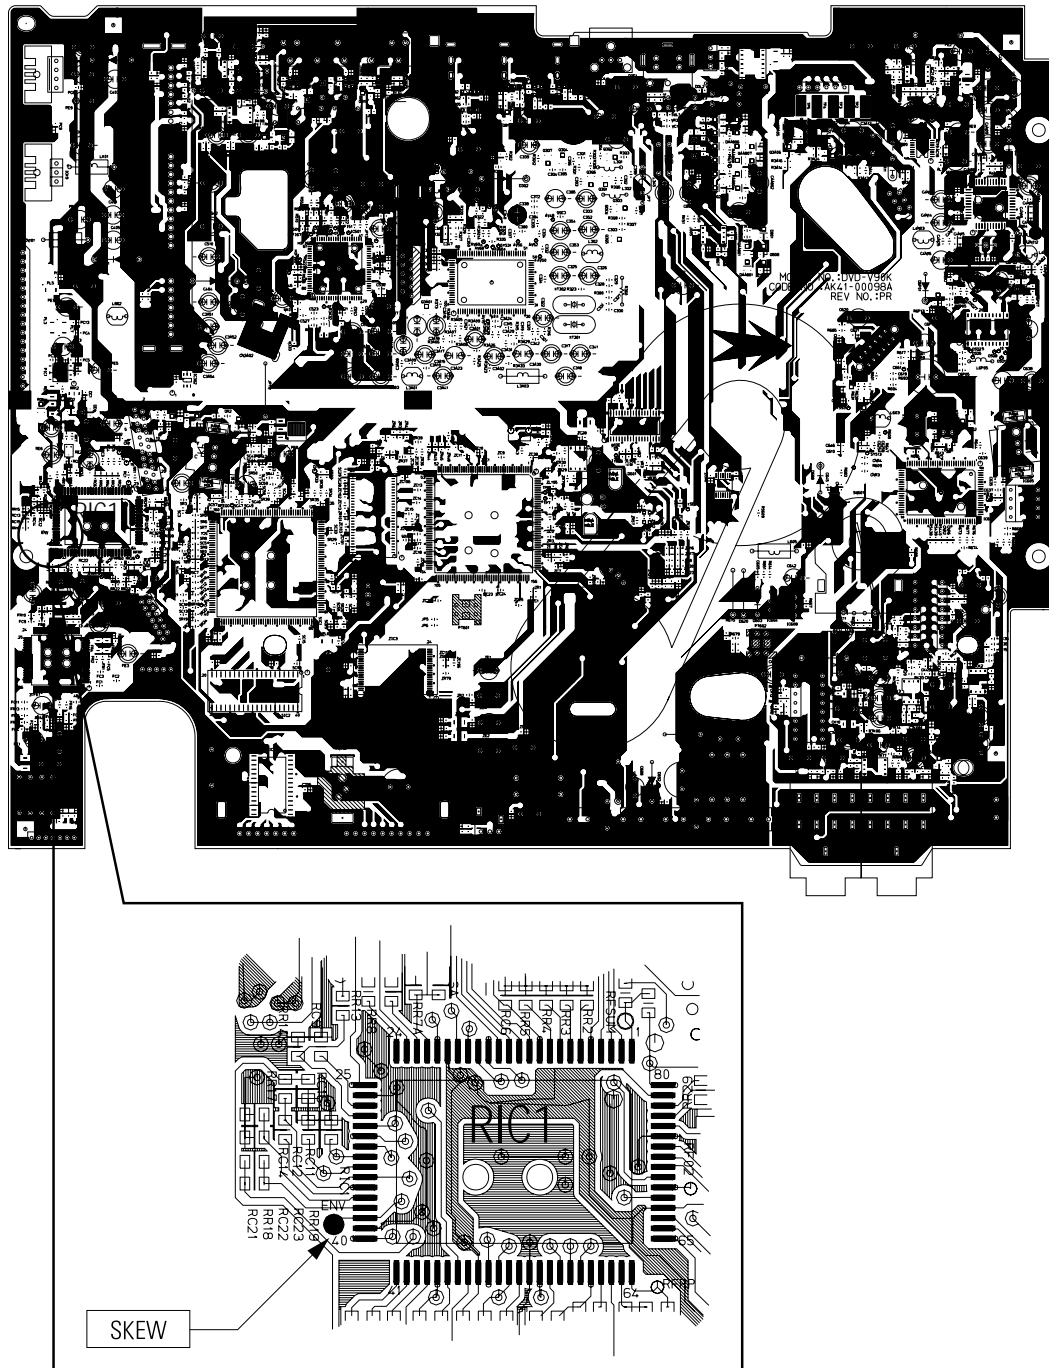

Fig. 6-5 Location of test Point (Main PCB - Top Side)
- 1) Connect an Oscilloscope to the "ENV" Test Point (See Fig. 6-5).